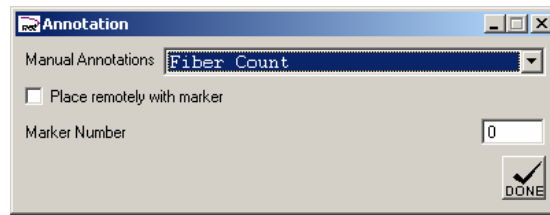

Figure 140 – Annotation Position and Type Control Panel.
- Click at a different location to add another copy of the annotation block. Then click the **Done** button shown in Figure 140, above to exit Annotation mode.